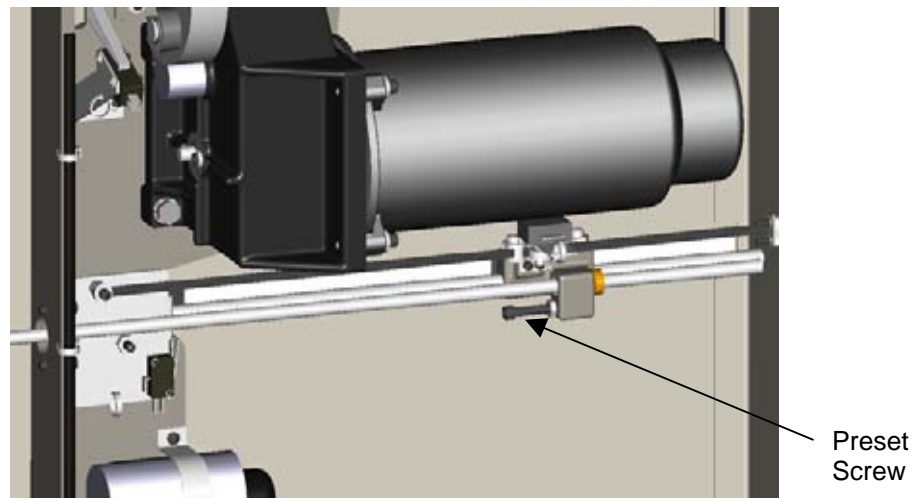

Figure 8
4. The backgauge accuracy can be corrected by adjusting the preset screw attached to the bottom of the backgauge nut assembly (Figure 8). Turn off power and disconnect the power cord. With the top cover ON, place machine on a flat level surface on it's left side and remove bottom cover. Place a 3/16" Allen wrench in the preset screw and hold in position while loosening the jam nut. Now adjust the screw as follows: